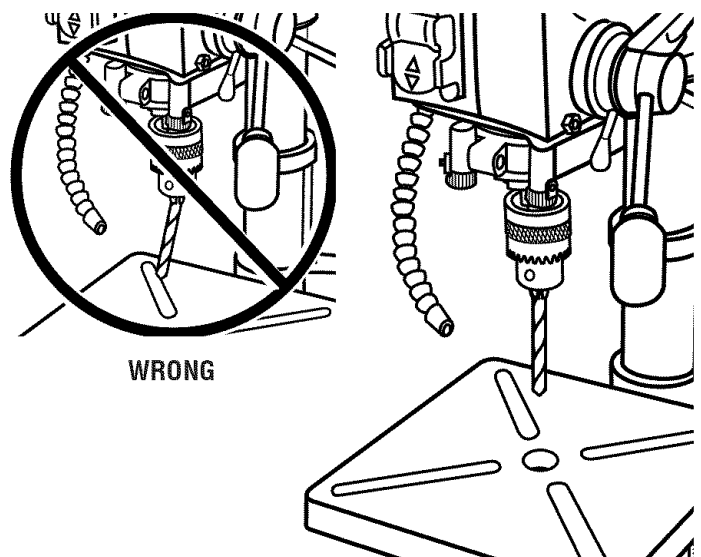

Fig. 19
See Figure 19.
**⚠ WARNING:** Do not insert drill bit into chuck jaws and tighten as shown in figure 19. This could cause drill bit to be thrown from the drill press, resulting in possible serious personal injury or damage to the chuck.